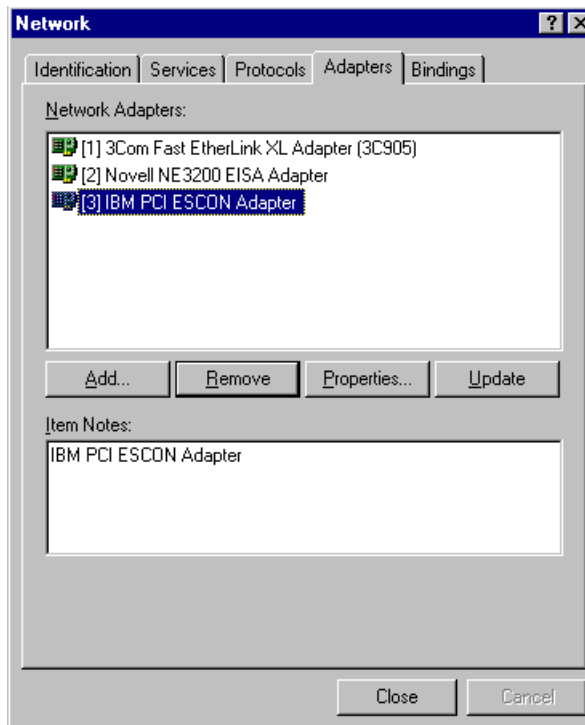

Figure 6-4. Adapter List with ESCON Adapter
2. Click on the Adapters tab (Figure 6-4). Make sure the IBM PCI ESCON Adapter is listed. If not, you must install the adapter before installing TCP/IP Direct Connect (Refer to Page 7).